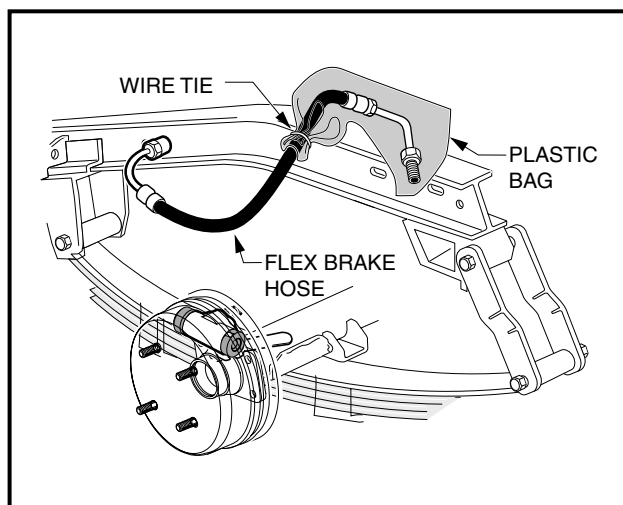

Figure 16b-27 Cover Brake Hose Fitting
8. Using a hydraulic jack placed under the transaxle (**Figure 16b-30, Page 16b-15**), raise the vehicle and place jack stands, set at approximately 17-1/2 inches (44.5 cm) in height, under the frame as shown (**Figure 16b-31, Page 16b-15**).